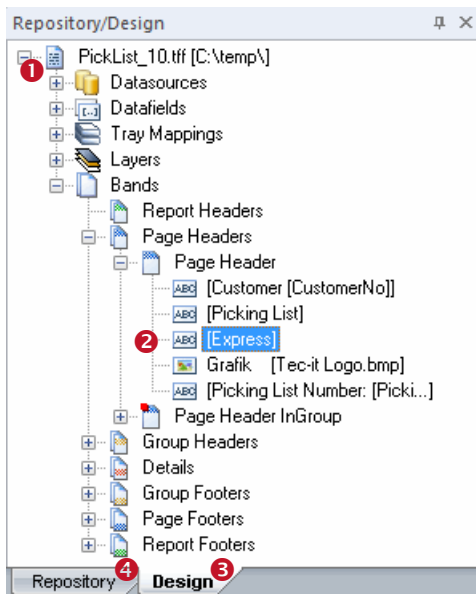

Figure 7: Design Tree Window
To select an object, click on it with the left mouse button. Hold down the **Shift** key or the **Ctrl** key for multiple selection. Figure 7 shows a selected text element (❷), which is located in the page header of a layout called "PickList_10.tff".